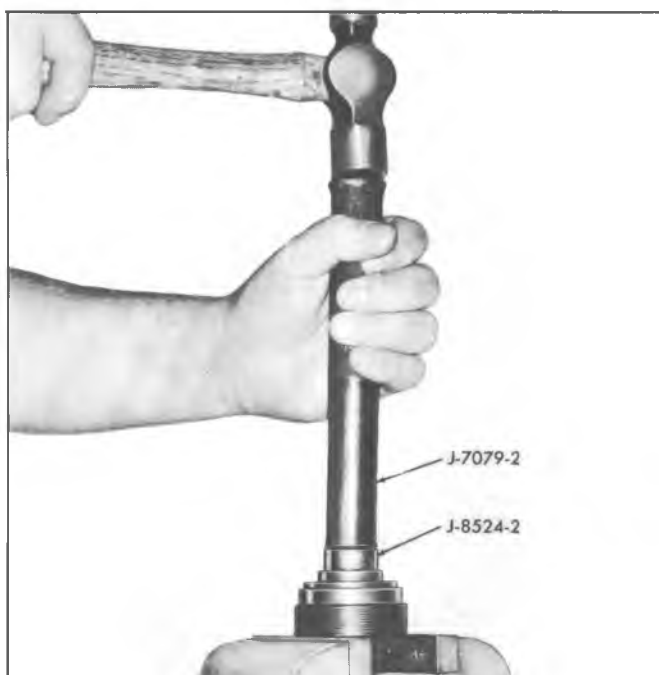

Fig. 5--Removing Bearing and Seal
3. If the needle bearing is to be replaced, remove the retaining ring using Internal Pliers J-4245. Remove thrust bearing as outlined in Step 2 above. Drive needle bearing, dust seal and oil seal from adjuster plug using Bearing Remover J-8524-2 and Driver J-7079-2 as shown in Fig. 5. Discard the seals.